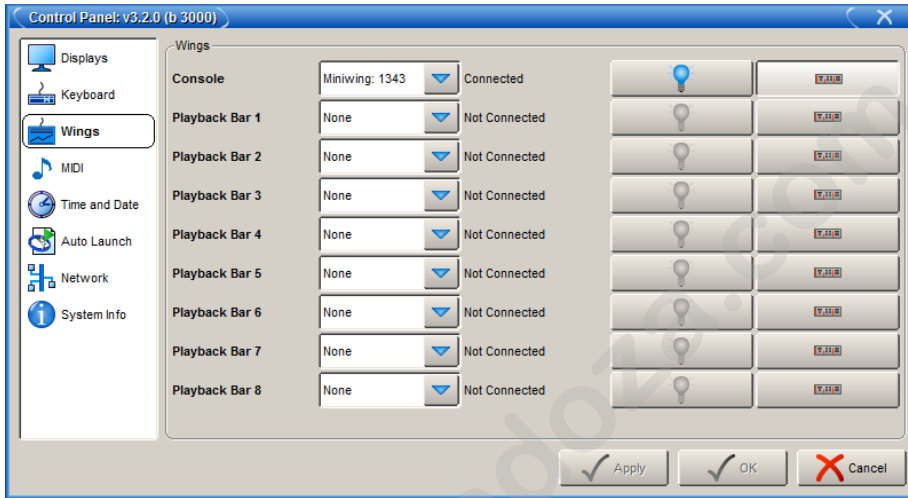

Figure 12.12. The Wings pane of the Control Panel
2. Setup → Control Panel → Wings : open the Wings pane of the Control Panel window (see *Figure 12.12*, “The Wings pane of the Control Panel”).